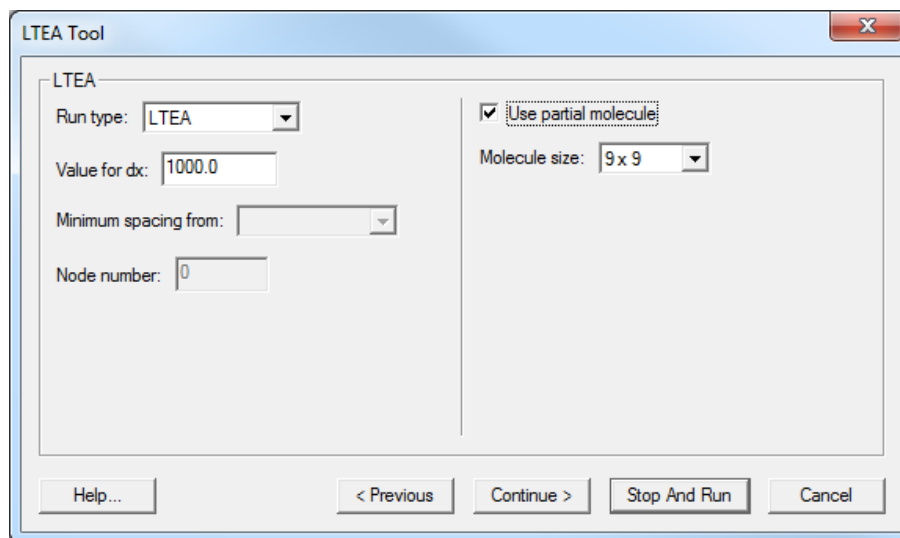

Figure 3 LTEA options page for the toolbox
11. In order to get LTEA values close to the domain boundary, make sure that the *Use partial molecule* check box is selected (Figure 3).